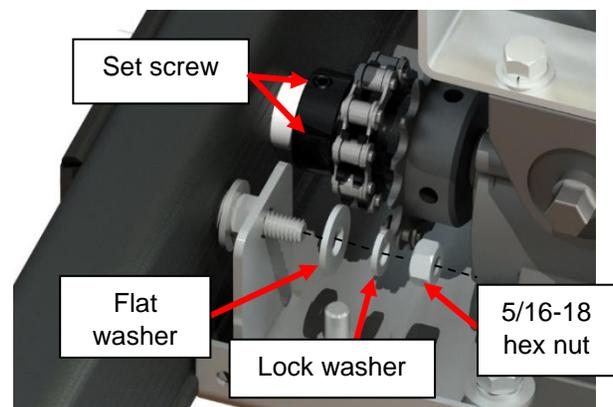

Figure 80
- 14) Untighten the set screws of the operator's sprocket. (Figure 80)
- 17) Fasten the operator to the two bolts from the motorside with two 5/16 in. flat washers, 5/16 in. lock washers and 5/16-18 hex nuts. (Figure 80)
- 18) Tighten both set screws in the sprocket. (Figure 80)